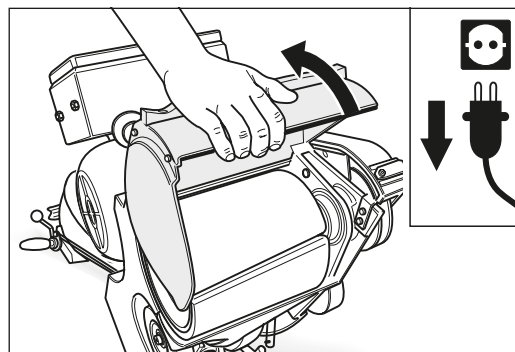

Fig. 74 Pull the power plug out of the socket and swing the drum cover upwards.
- 4 Swing the drum cover upwards on the front of the machine housing (fig. 74).